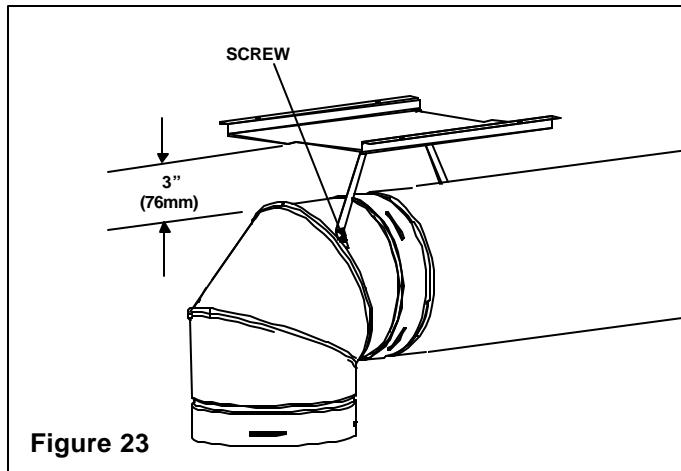

Figure 23
- If the combustible materials are not in place at the time of install the elbow heat shield may be screwed to the exhaust pipe (see Figure 23). Cut the tabs as shown and bend down. Using the screws found in the manual bag secure the heat shield to the pipe maintaining 3" to 4" between the pipe and shield.